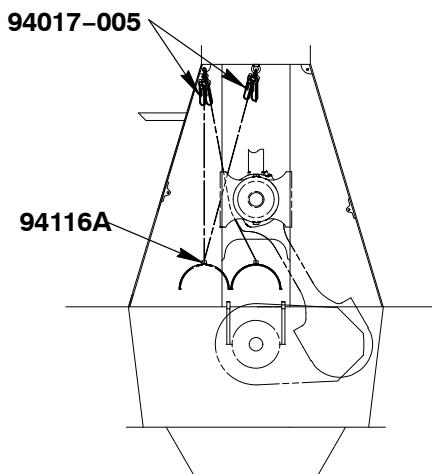

Fig. 29
17) Install the second spur-gearred chain block (94017-005, Fig.29) and attach it to the lifting tool (94116A).